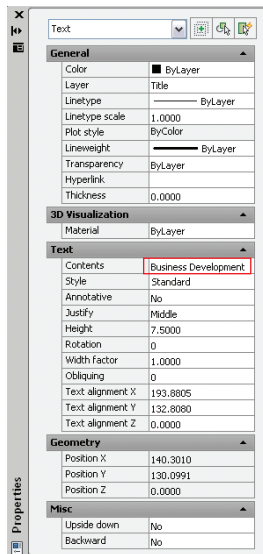

FIGURE 6.4 Editing a value in the Properties panel
13. Select the Business Development text object you selected in step 11. Many of its properties appear in the panel (see Figure 6.4). Property values displayed on a white background are editable; those on a gray background are for your information only.